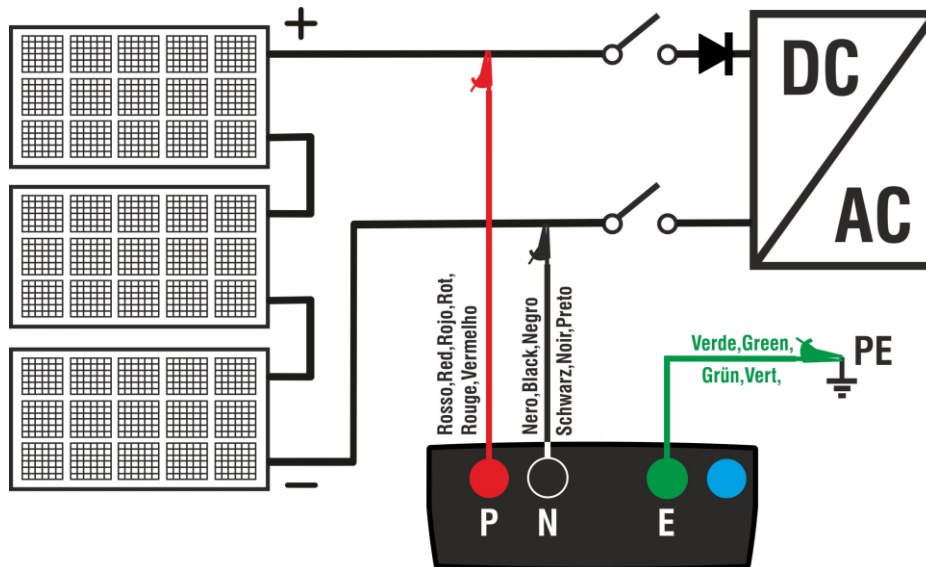

Fig. 8: Instrument connection for insulation measurement in GFL mode
8. Connect the instrument to the PV string to be tested as shown in Fig. 8. Remember that any surge arresters connected to the string cables must be disconnected and that it is advisable to measure upstream of any blocking diodes
2. Connect the instrument to the PV string to be tested as shown in Fig. 8.